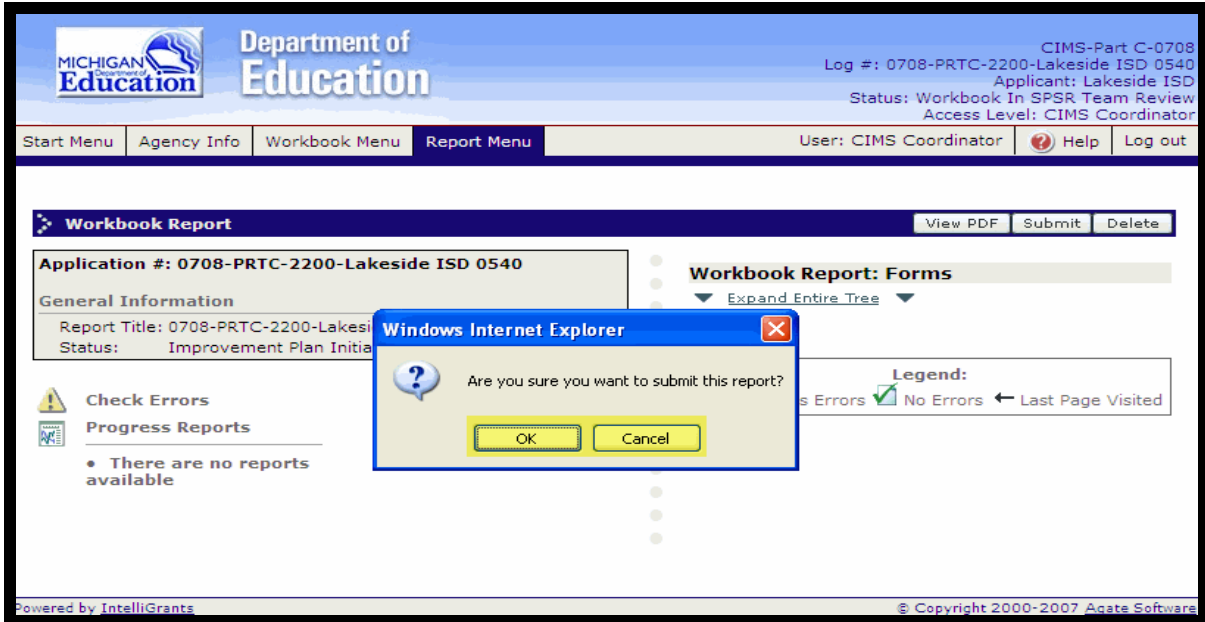

Figure 90
- You will be prompted by a pop-up window asking, **Are you sure you want to submit this report?** Click **OK** to submit the Improvement Plan or **Cancel** to return to the Improvement Plan **Report Menu** screen (Figure 90).